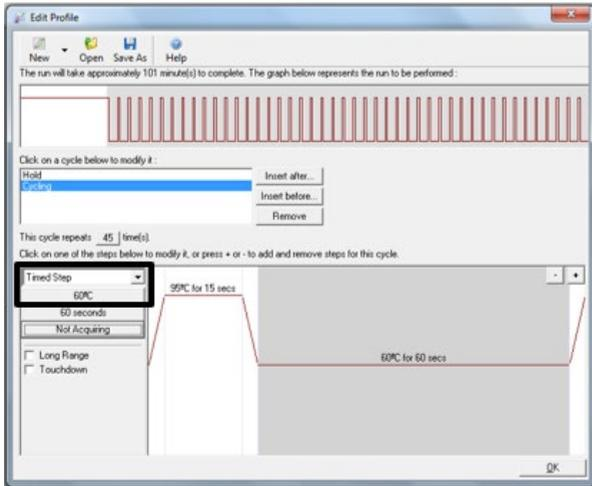

Figure 15. Edit Profile second step. Set the temperature to 60°C.
21. Highlight the second step and set the value to **60°C for 60 sec** (Figure 15).